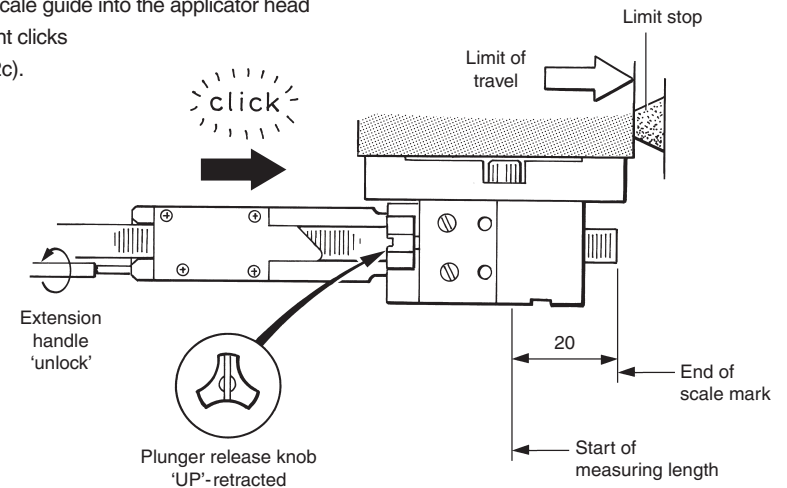

Figure 2c Scale positioning
3. Engage the scale guide into the applicator head until the detent clicks (see Figure 2c).